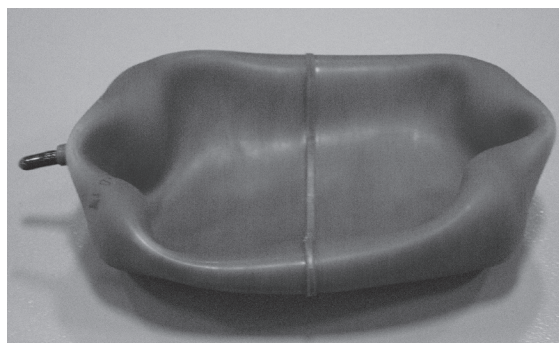

fig. 5
5. Remove the plastic cap from the barbed stem on the end of the air spring (A). Exhaust the air from the air spring by rolling it up toward the barbed stem. Replace the cap on the stem to hold the flat shape (Fig. 5). Fold the air spring into a "hot dog bun shape."